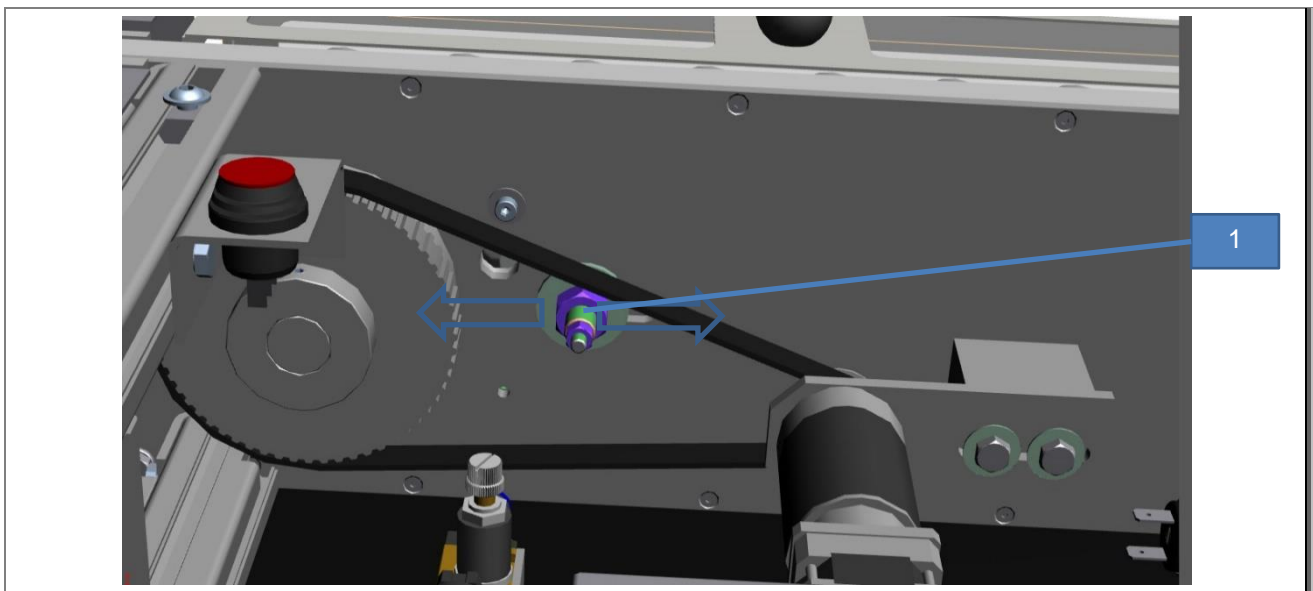

Fig. 12: Adjusting the chain tension
1. Release the screw (1) on the underneath of the sample changer platform (see Fig. 12: Adjusting the chain tension).
2. Move the screw (1) to and fro to adjust the chain tension (see Fig. 12: Adjusting the chain tension).